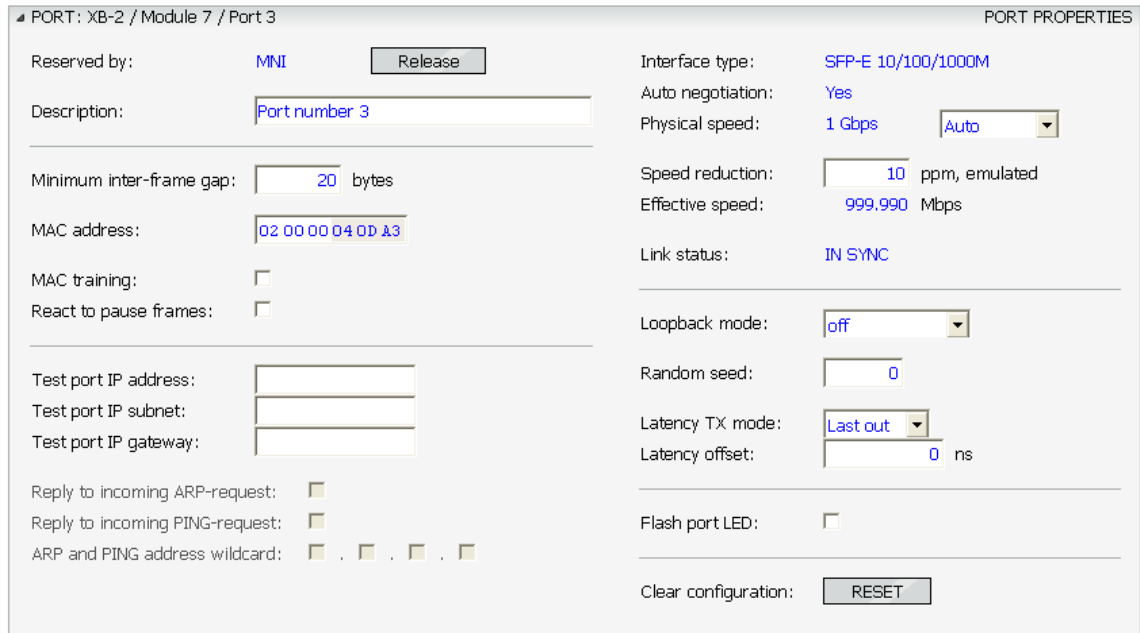

Figure 8 Compensate for the line rate difference to eliminate unwanted packet loss (step 6)
Step 6: Compensate for the line rate difference to eliminate unwanted packet loss. Stop the traffic generation, and configure the port with a 10 ppm speed reduction, which effectively reduced the line rate of the source port from 1000 Mbps to 999.990 Mbps. See Figure 8.